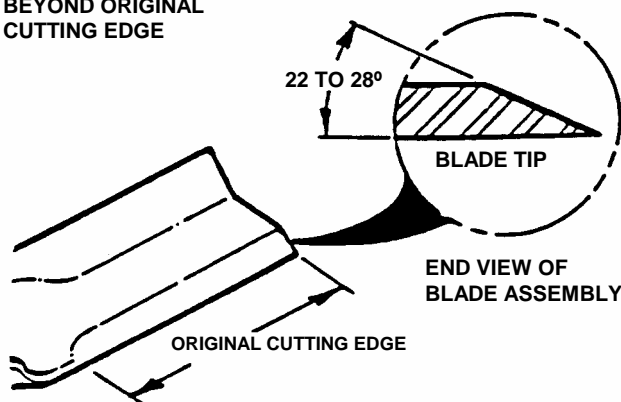

FIGURE 4.4
- Sharpen blade on a grinding wheel at an angle of 22 to 28 degrees. DO NOT sharpen blade beyond original cutting edge. See Figure 4.4.